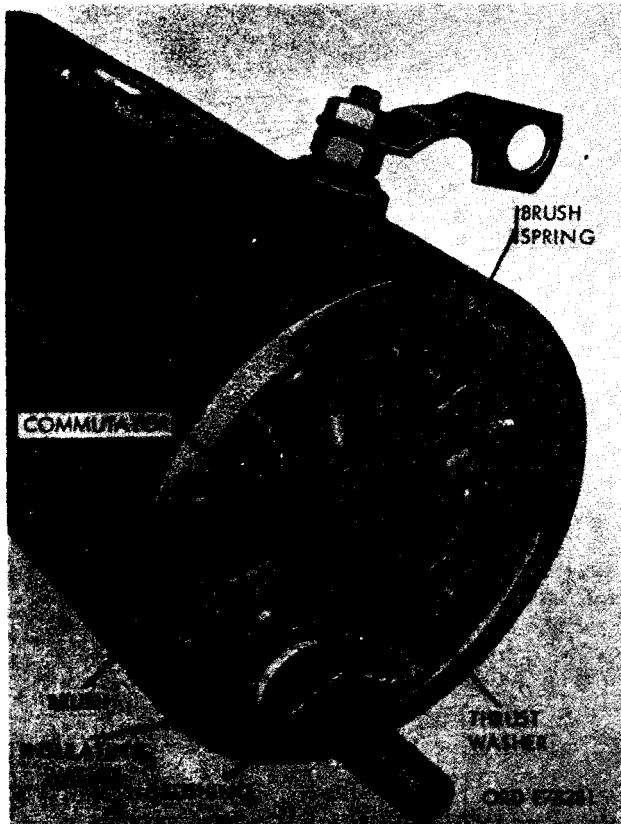

Figure 4-30. *Installing armature.*
(2) Raise brushes as shown in figure 4-30 until brushes are seated on commutator.
(3) If new brushes have been installed in brush holder, seat brushes on commutator as follows:
(1) Install thrust washer (C, fig. 4-12) on commutator end of armature and insulating washer and bushing (fig. 4-30) on terminal stud.
(2) Aline scribe marks on end plate and frame. Refer to paragraph 4-4e and reverse the sequence of instructions to install the commutator end head assembly. Coat new end-head gasket with grease (GAA) before installation.